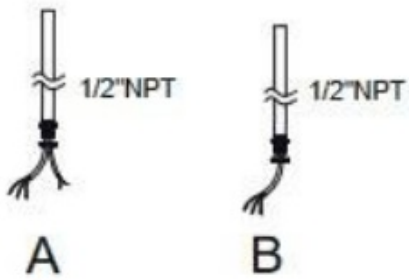

Figure 7
1. Unscrew the nuts on VT NPT (by others) (Figure 7)